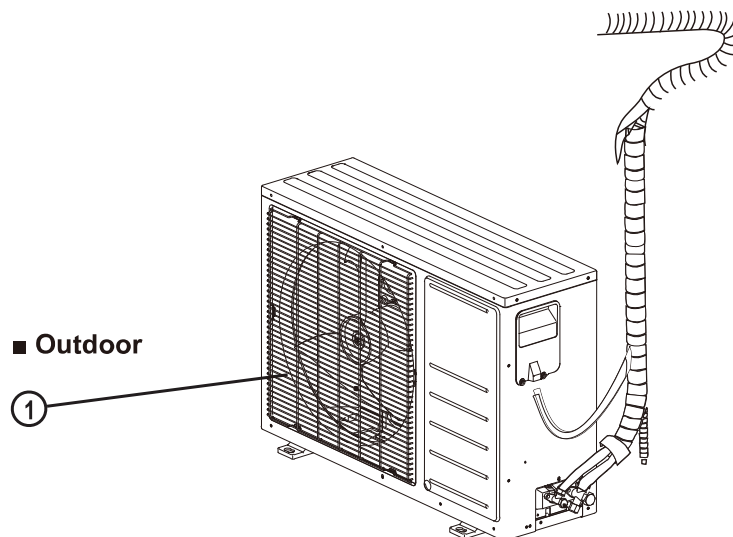

Fig. 4 —Parts List
- Figure 4 is only a sketch. Different models may differ slightly.